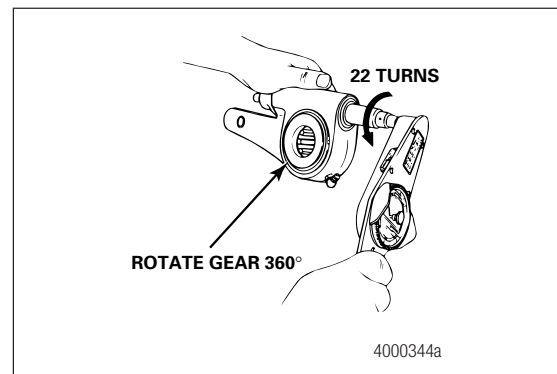

Figure 4.3
1. Use a lb-in torque wrench and turn the adjusting nut COUNTERCLOCKWISE (Figure 4.3) to rotate the gear 360 degrees, or 22 turns of the wrench, as you read the torque scale on the wrench. The value should be less than 45 lb-in (5 N•m) as you rotate the gear.